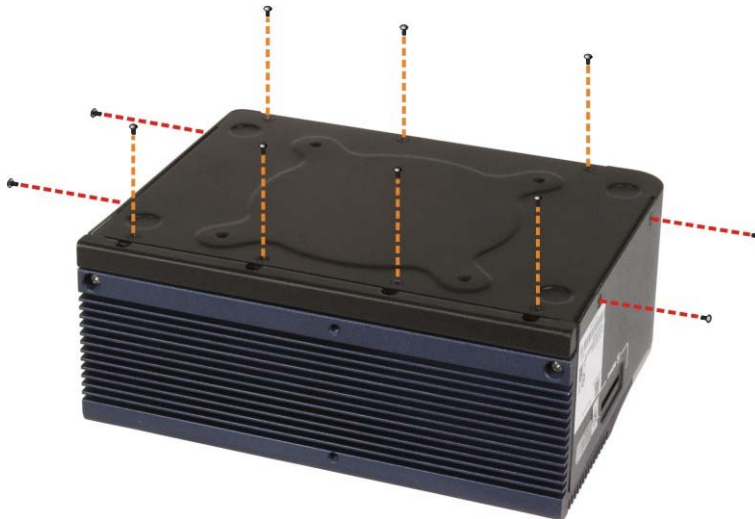

Figure 6-4: Bottom Panel Retention Screws
Step 1: Remove the bottom panel retention screws (Figure 6-4) and lift the bottom panel.